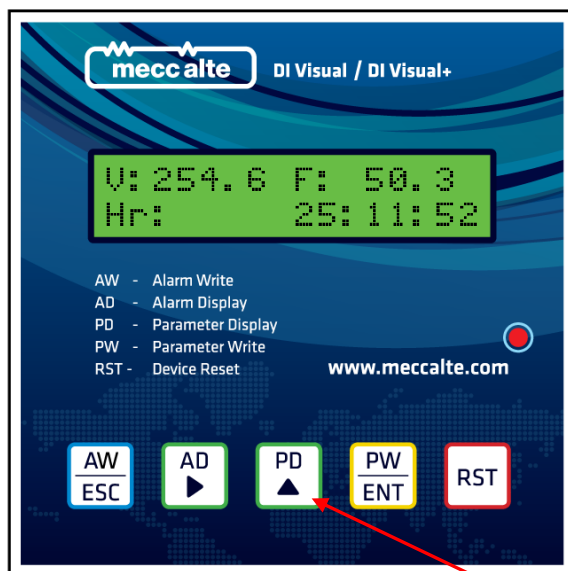

fig. 17
- 1) Keep the  key pressed as shown in Fig. 17 above to pull the Parameter values from DSR and display them on the LCD. Keep the key pressed until you see "Please Wait" message displayed or first parameter displayed.